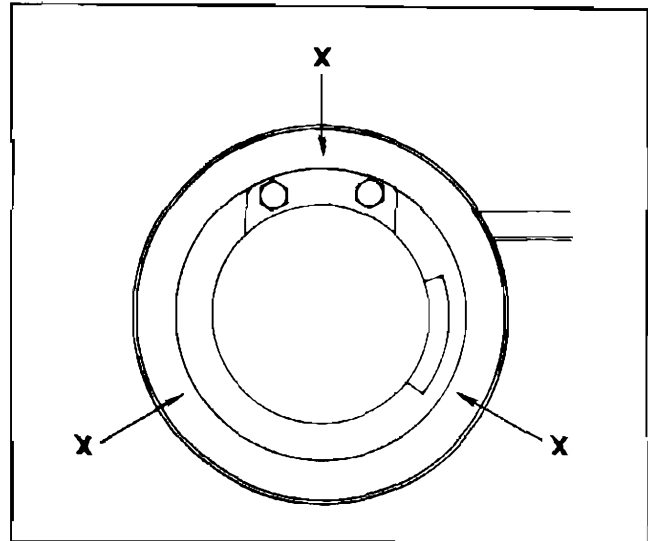

Fig. 11-119 Inner Ring of Aimer
3. Position T-3 Safety-Aimer on headlamp so that guide points engage smooth inner ring of aimer at points "X" shown in Fig. 11-119 and the cross arm on aimer points toward center of car.